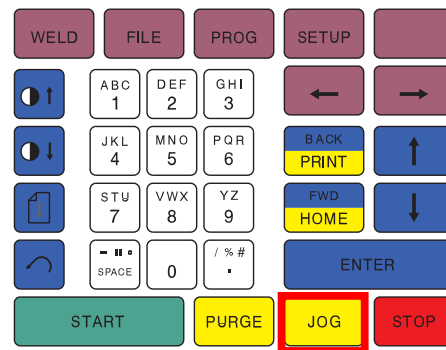
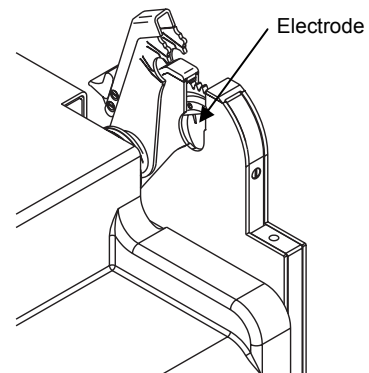

Figure 14 *Pressing JOG on the Operator Panel*
Figure 15 *Jogging the Rotor until the Electrode is Accessible*
5. With the weld head in the open position, press **JOG** on the operator panel (see Figure 14) until the tungsten electrode is in the position shown in Figure 15.